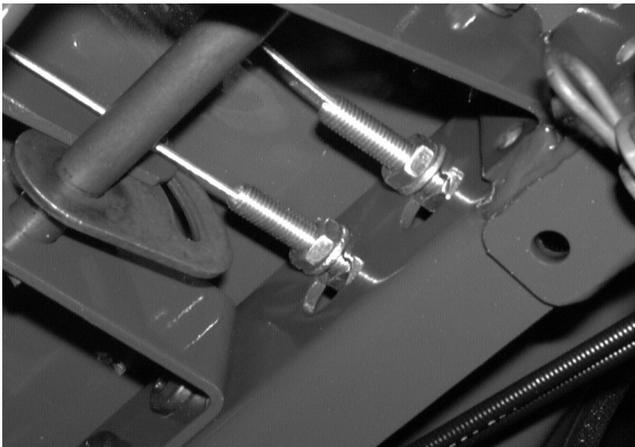

FIGURE 9.
- 16). By hand, tighten the front jam nut to the front of the front channel assembly. See figure 9.